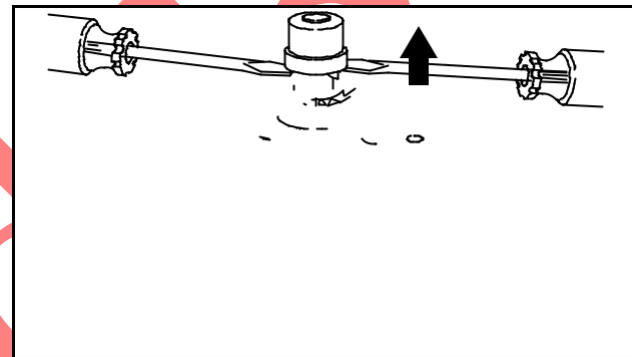

**Fig. 16 – Removing Starter Drive**
4. Remove retainer, return spring, spring washer, pinion gear, and starter clutch, Fig. 16.